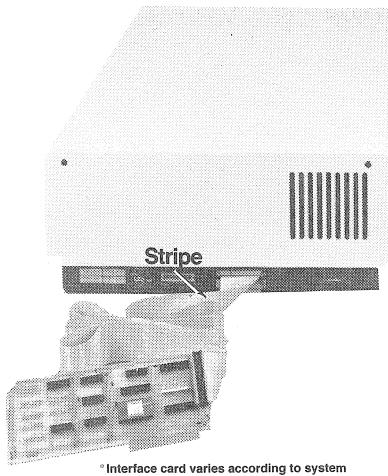

FIGURE 2.6 PROPERLY CONNECTED DRIVE
Both of these connectors should only be connected with the cables leading down and away from the drive (see figures 2.6 and 2.7). When facing the drive cabinet back panel, the colored stripe should be to your right. To safeguard your drive's hardware, do not try to force a cable to connect in any other way.
NECT THE CABLE (AS DEPICTED IN FIGURE 2.6).**
2. If you have not connected a stand-alone Mirror to your system, you must now connect the interface cable to the connector on the drive cabinet backpanel labeled PROCESSOR. The interface cable should only be connected with the cable leading down and away from the drive (as depicted in figure 2.6). When facing the drive cabinet back panel, the colored stripe should be to the right. To safeguard the drive's hardware, do not try to force a cable to connect in any other way.